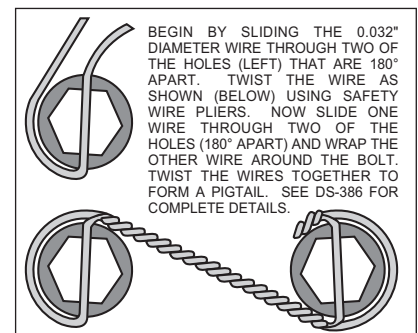

Figure 3. Safety Wire Diagram
- The caliper mount bracket assembly (1) should be installed first with clean, dry threads on the mounting bolts. Install the bracket by sliding bolt (2) through lock washer (3) and flat washer (4) from the side through the spindle support and into the top of the caliper mounting bracket (1). Slide bolt (5) through washer (6) from a 90° degree angle thru the mounting bracket and into the lower portion of the steering arm. The bracket must tighten squarely against the outboard side of the caliper mount bosses on the spindle body. Inspect for interference from casting irregularities, machining ridges, burrs, etc. Later, after the caliper, pad, and rotor alignment has been checked, and any necessary shims have been put in place, the mount bolts should be coated with red *Loctite*® 271 and bolt (2) torqued to 65 ft-lbs and bolt (5) torques to 42 ft-lbs.
- Install wheel studs (7) into the hub (8). Torque to 77 ft-lb. **NOTE:** There are two (2) five lug patterns in the hub (5 x 4.50 and 5 x 4.75). Make sure of the correct hole pattern for the correct wheel application before installing studs into hub. You must use the 5 x 4.50 pattern for this application.
- Pack the large inner bearing cone (9) with high temperature disc brake bearing grease (available from your local auto parts store) and install into the backside of the hub (8).
- Install the grease seal (10) by pressing into the backside of the hub (8).
- Pack the small outer bearing cone (16) with high temperature disc brake bearing grease and install into front of hub (8). Slide the hub assembly (7, 8, 9, 10 and 16) onto the spindle. Secure using spindle washer (17), stock adjusting nut and nut locking device. Adjust wheel bearing pre-load per Original Equipment manufacturer (OEM) specifications.
- Install the o-ring (18) on the dust cap (19), and screw dust cap assembly onto the hub (8). Friction created by the o-ring (18) on the dust cap (19) keeps it from unscrewing.
- With the stepped I.D. side of the rotor (11) facing away from the hat (12), bolt rotor (11) to hat (8) through the backside of the rotor using washers (13) and bolts (14). Torque bolts (14) to 180 **in-lb**. Safety wire bolts (14) using standard 0.032 inch diameter stainless steel safety wire as shown in Figure 3. Please refer to Wilwood's data sheet DS-386 (available at [www.wilwood.org/ds386.pdf](http://www.wilwood.org/ds386.pdf)) for complete safety wire installation instructions.